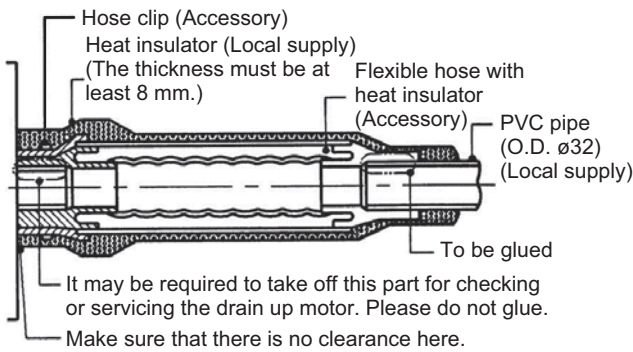

Fig. 1-115
- Tighten the hose clamps so their locking nuts face upward. (Fig. 1-115)